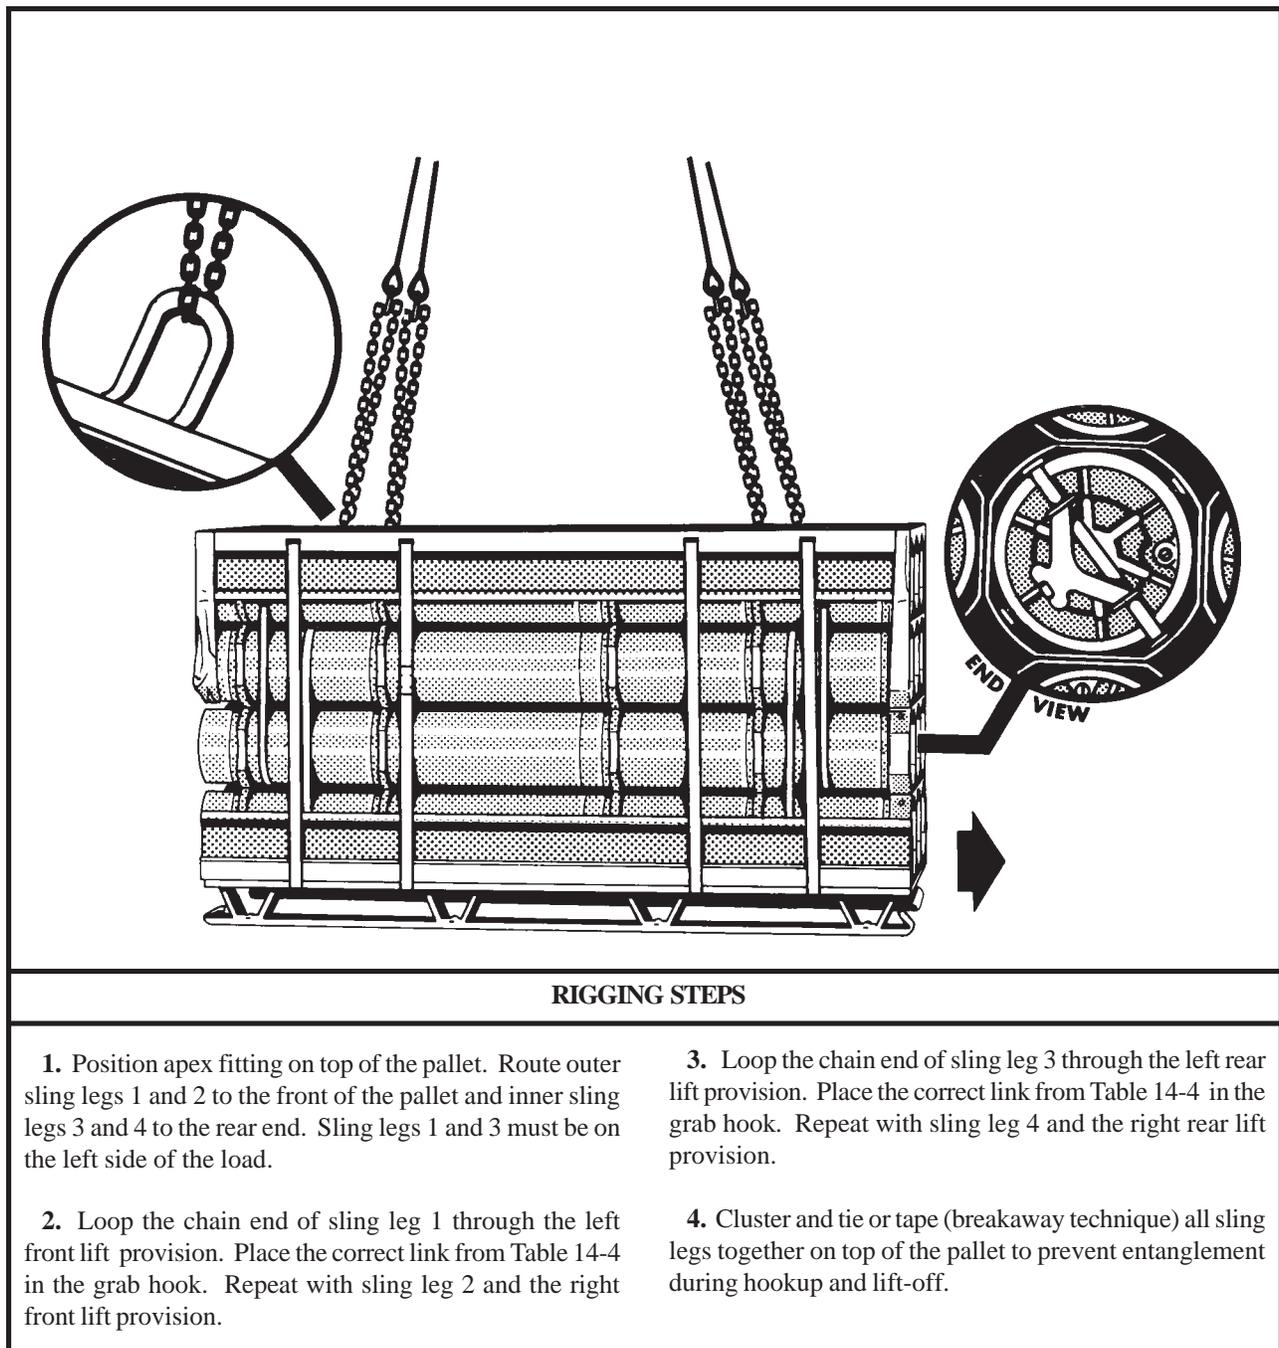

Figure 14-4. 2.75-inch Rocket Fastpack Pallet
(2) **Rigging.** Rig the load according to the steps in Figure 14-4.
(4) **Derigging.** Derigging is the reverse of the preparation and rigging procedures in steps d (1) and d (2).